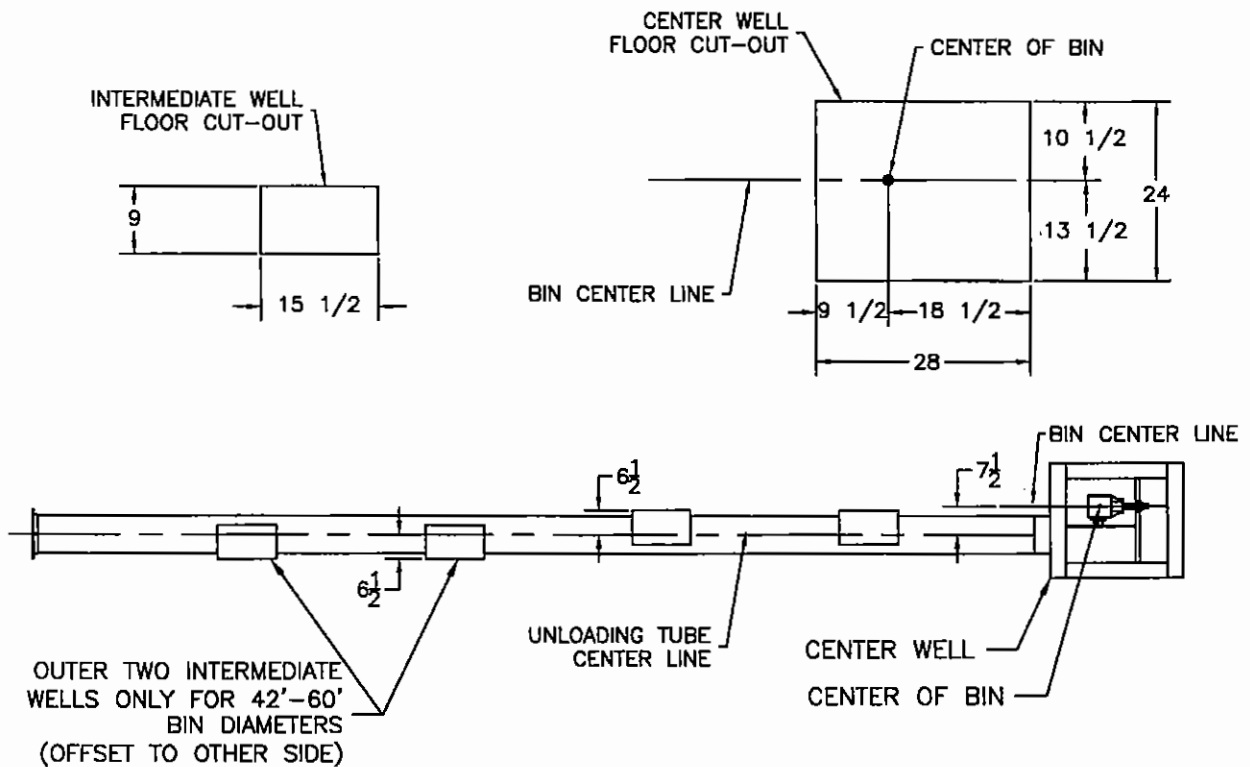
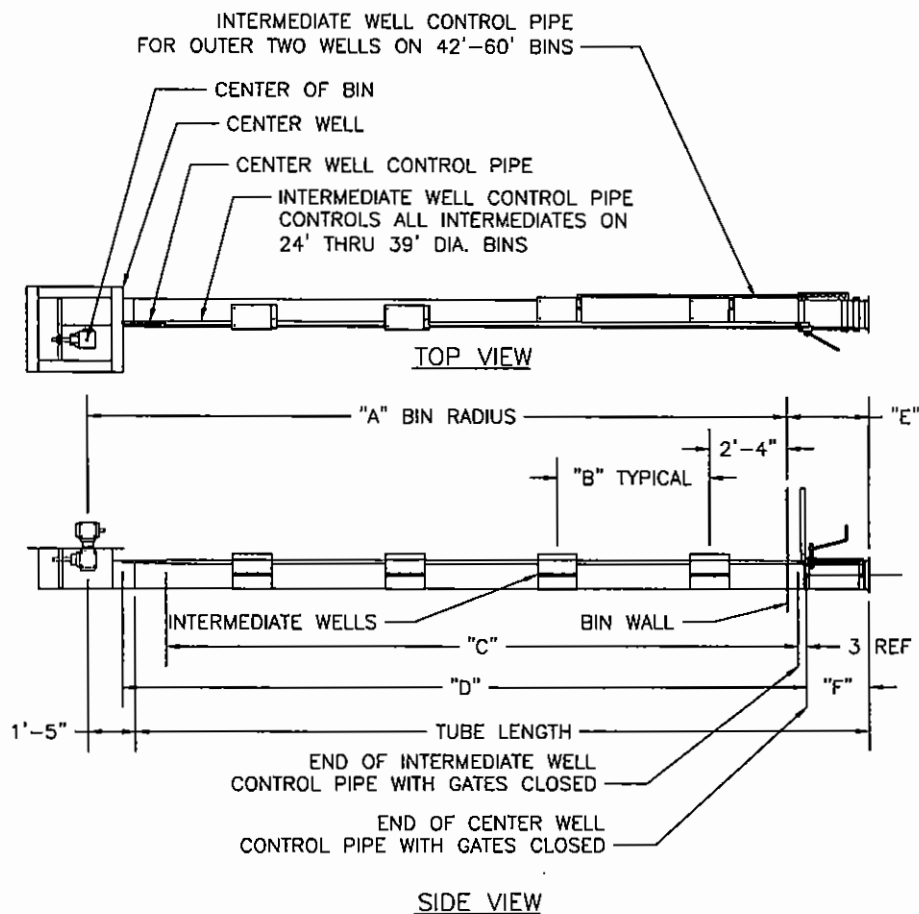

FIG. 9
FIG. 12
1. Locate the center of the bin and make a cut-out in the bin floor for the center well. See Fig. 9. Locate the vertical shaft between the gearboxes in the center of the bin. Place suitable supports under the center well to hold it in position.
4. Cut openings in the bin floor for the intermediate wells. (See Fig. 9 on page 13.) The number of wells depends on bin size. (See chart and Fig. 12 below.)
- B. Check length of control pipe by sliding it through the control pipe of intermediate well(s). When the control pipe is fastened to the control gate, the center well control pipe should extend past the end of the intermediate well control pipe a minimum of 3". See Fig. 12 on page 15.